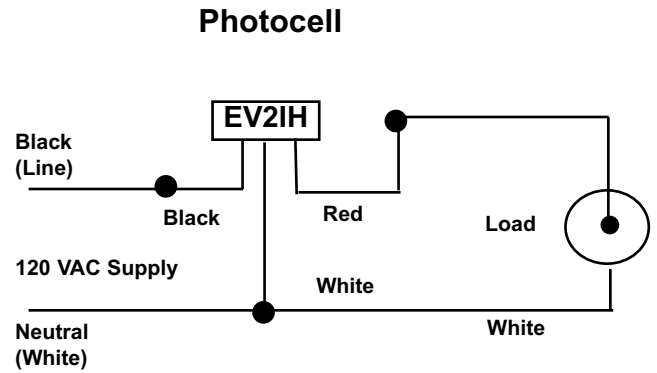

Figure 1
7. Wire the photocell in the circuit as follows: (See Figure 1)